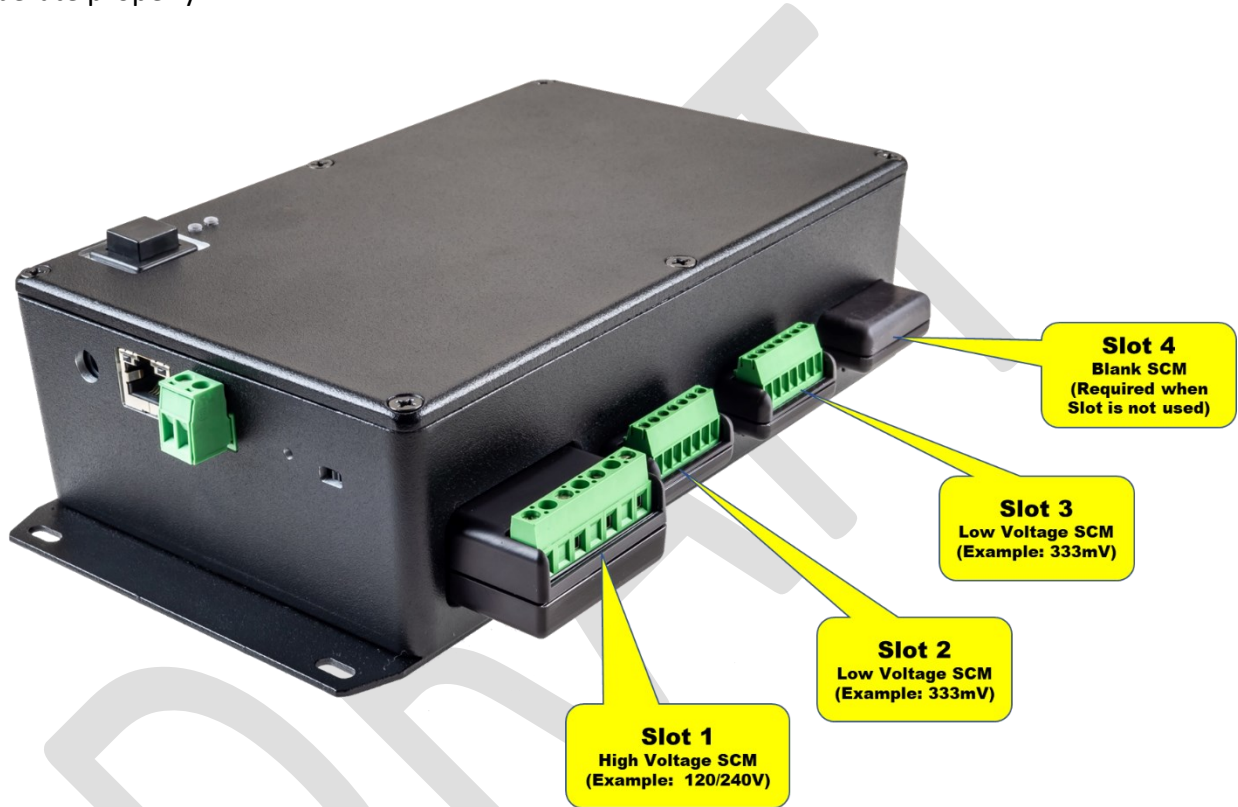

Figure 2 - PdMAEYE SCM Slots (Example)
The PdMAEYE has 4 Slots for Signal Conditioning Modules (SCMs) as shown in Figure 2. SCMs are used to condition signals such as Voltage, Current, or Transducer Outputs to a  $\triangle 3.0V$  Peak for the PdMAEYE Data Acquisition System in the PdMAEYE Base Module. Although there are a variety of SCMs that can be provided for each slot, a typical configuration may be (1) 3 Phase Voltage SCM such as the 120/240V (Slot 1), (2) 333mV SCMs (Slots 2 & 3), and (1) Blank SCM (Slot 4). A slot cannot be left open, a SCM is required to be in each slot for the system to operate properly.